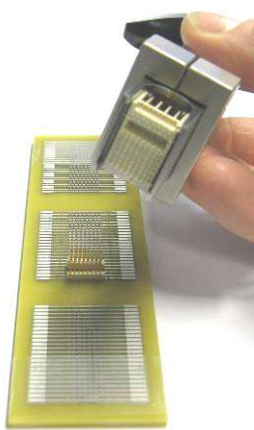

Figure 21
6. Contacts that possibly remain on the pc-board after the removal process may be extracted with commercially available flat pliers or a similar tool (see figure 21, 22 and 23).